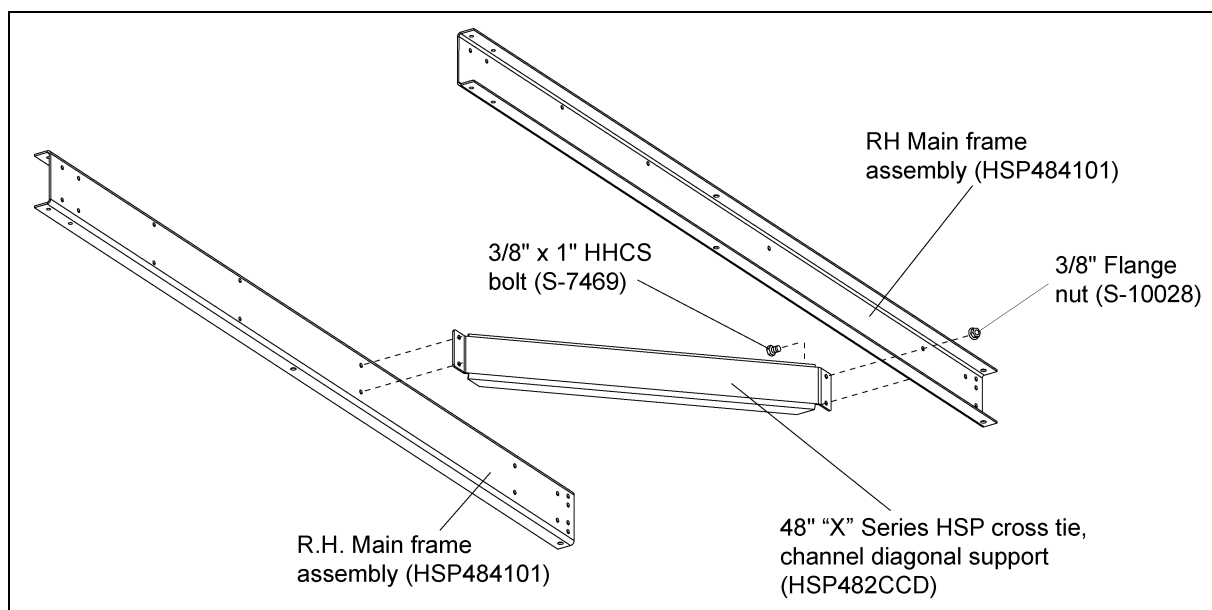

Figure 9E
5. Install the diagonal cross tie channel support (HSP482CCD) between the channel support assemblies (HSP484101) and secure in place using 3/8" x 1" HHCS bolt (S-7469) and 3/8" flange nuts (S-10028). (See Figure 9E.)